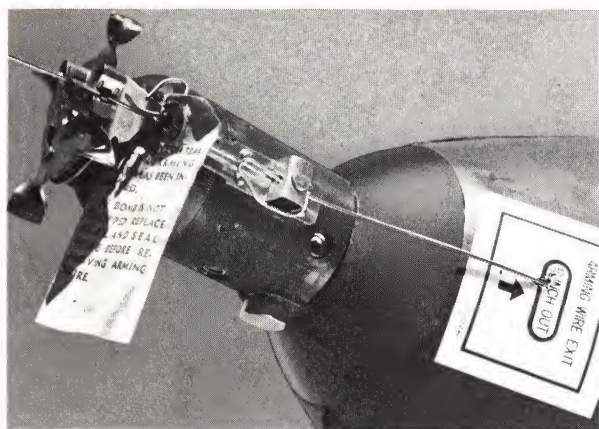

Figure 4-8. Fahnstock Clips Attached to Arming Wire.
14. Attach two Fahnstock clips to end of arming wire to secure it, figure 4-8.